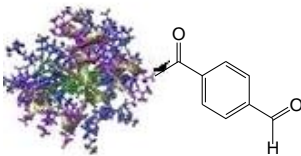

Figure 7: Representative structure of 4FB-R-PE.
- Add calculated volume of 4FB-R-PE (Figure 7) to the Antibody solution. SoluLink recommends a 1/1 HyNic-IgG/4FB-R-PE ratio but this may be changed as desired.